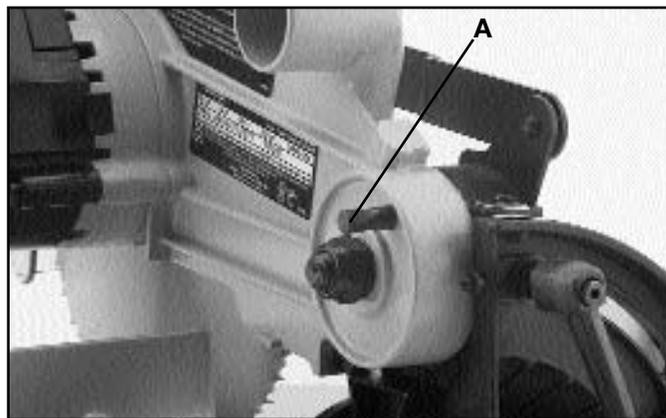

Fig. 16
When transporting the miter saw, the cutting arm should always be locked in the down position. This can be accomplished by lowering the cutting arm and pushing in on arm locking pin (A) Fig. 16.